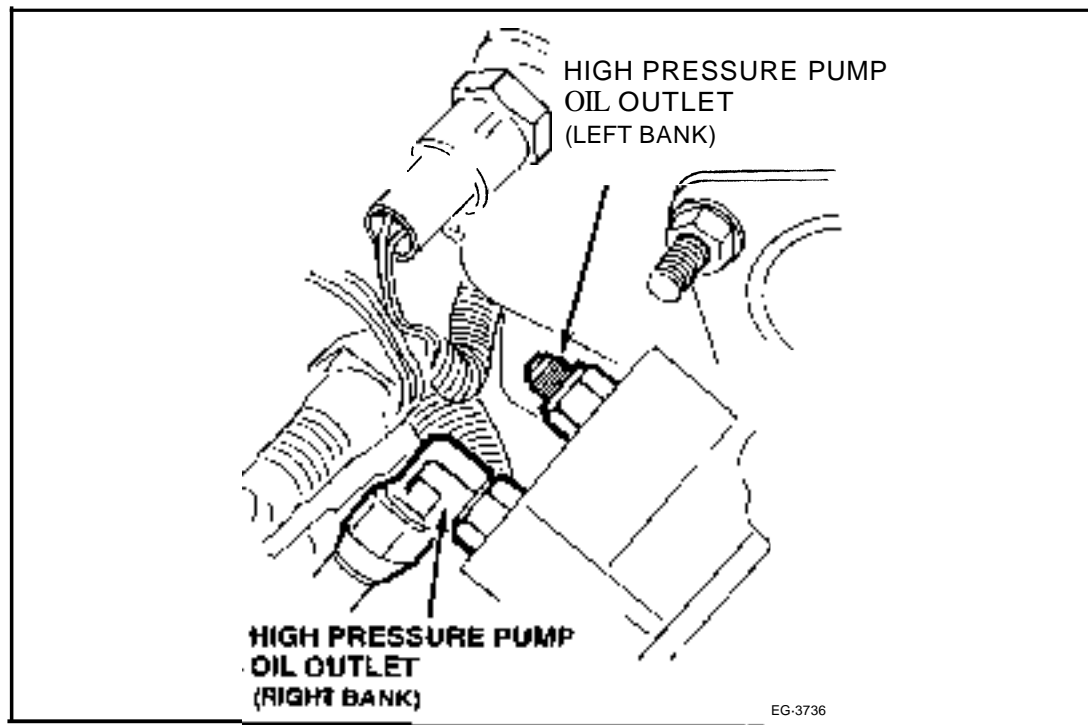

Figure 2.2-12. - High Pressure Pump Oil Outlet Locations
2. Remove the high pressure supply line of the suspect leaking cylinder head at the high pressure pump Figure 2.2-12..